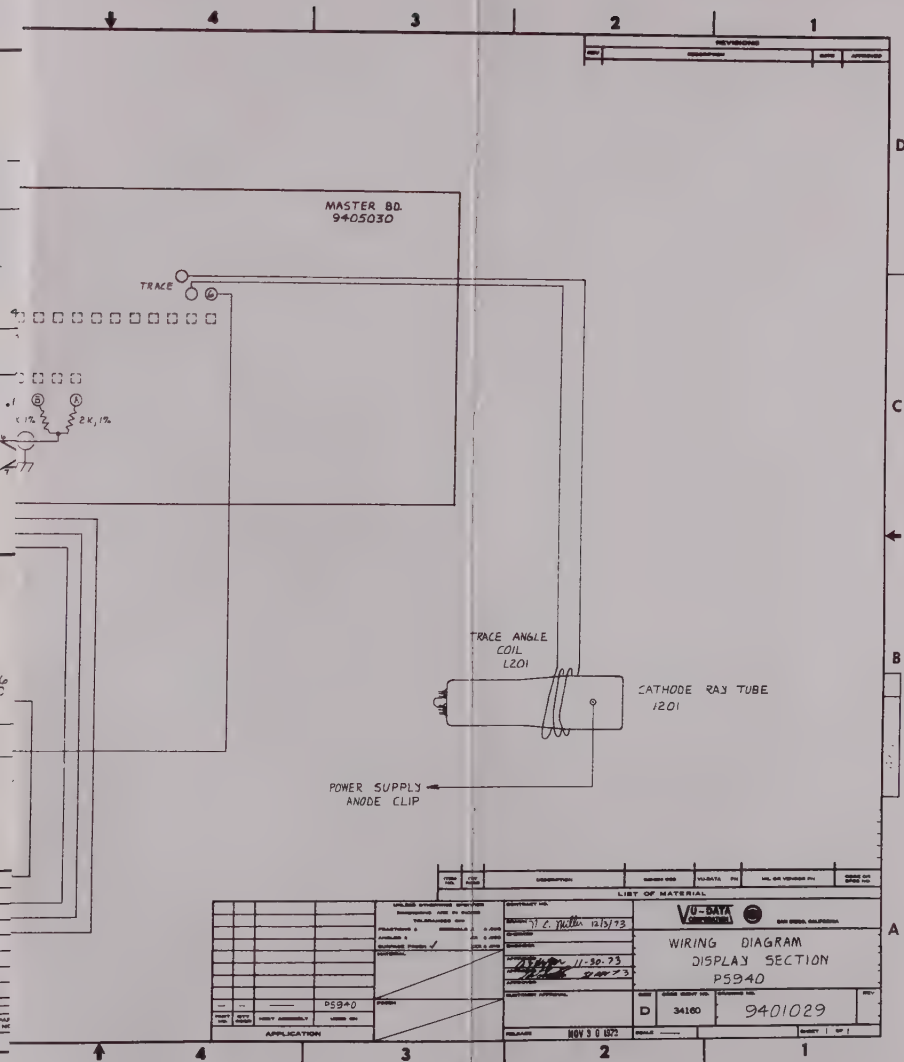

Figure 7-5. Wiring Diagram Display Section 9401029
- Figure 7-5. Wiring Diagram Display Section 9401029